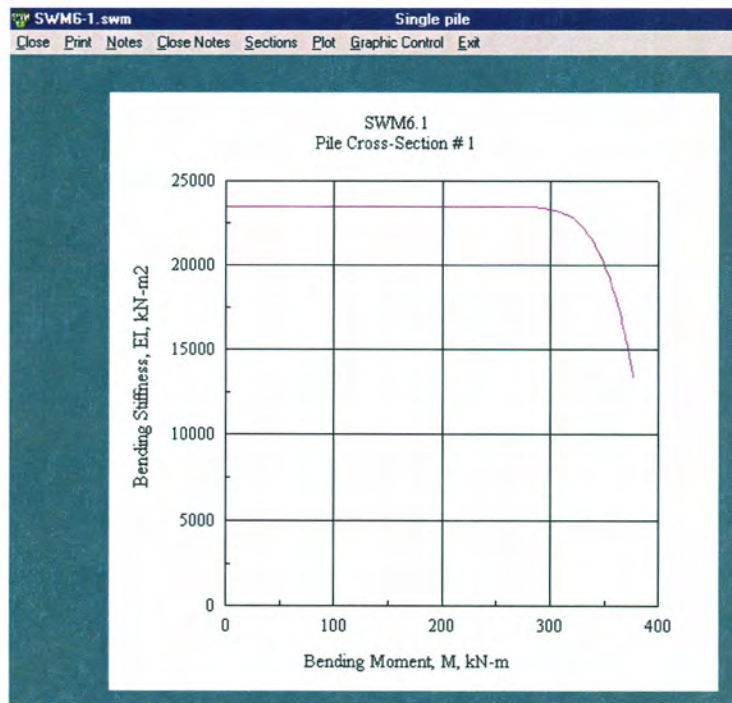

Fig. 27a Moment vs. Bending Stiffness for the Pile Cross Section(s) (Steel Pipe)
- Moment – Bending Stiffness ( $M - EI$ ) [Fig. 27a]